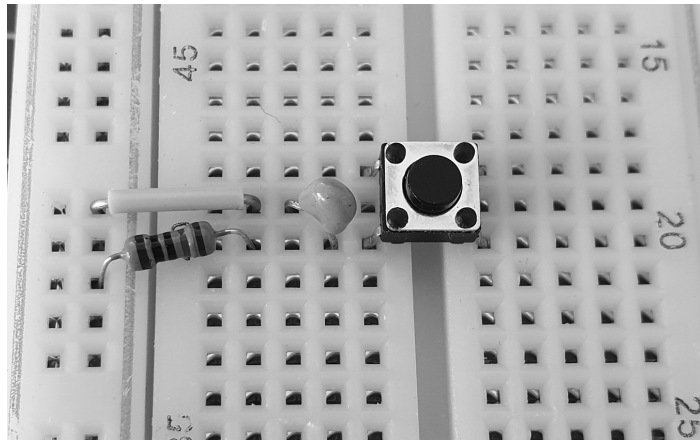

Figure 4-21: 10 kΩ resistor, capacitor, and push button
2. Now insert the 10 kΩ resistor, a short link wire, and the capacitor, as shown in Figure 4-21.